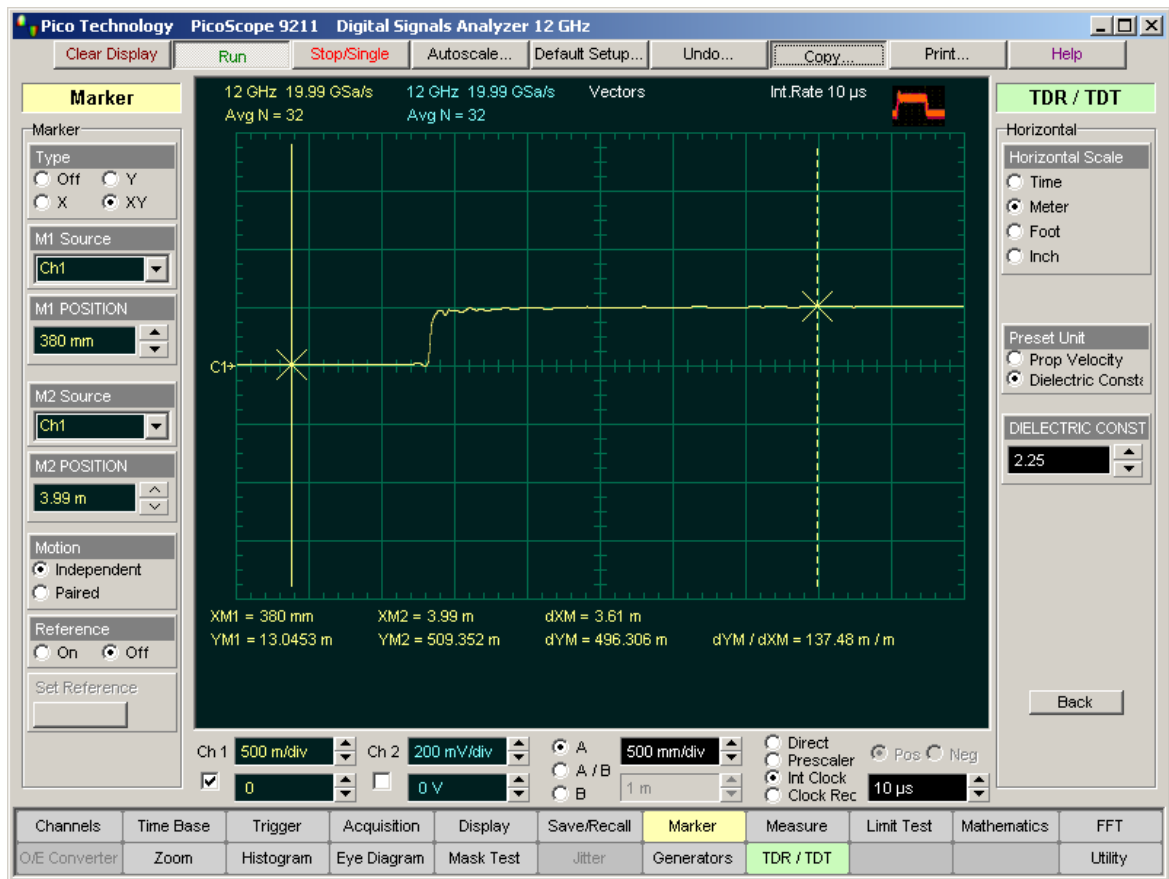

Figure 3
12. Place marker M2 on the top of TDT step. See Figure 3.